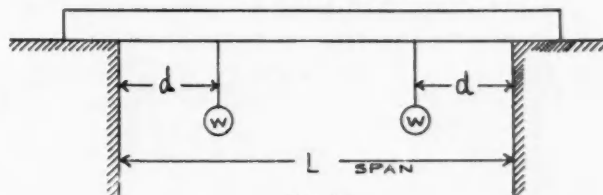

Fig. 10
*Case VI (Fig. 10).—Beam Supported at Both Ends and Loaded with W pounds at a Distance, "d," from Each End: "d" is taken in feet the same as the spans.*